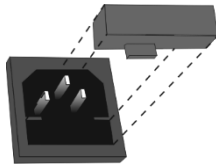

Figure 7. Fuse replacement
- 10.5 Fuse replacement. Disconnect from electric circuit. Remove the power plug from the rear side of the unit (fig. 1/2). Pull out the fuse holder by applying leverage in recess (figure 7). Remove the fuse from the holder. Check and replace with the correct fuse if necessary, **M** 3.15 A for 230 V and **M** 8.0 A for 120 V (type **M** - time lag: **Medium**).